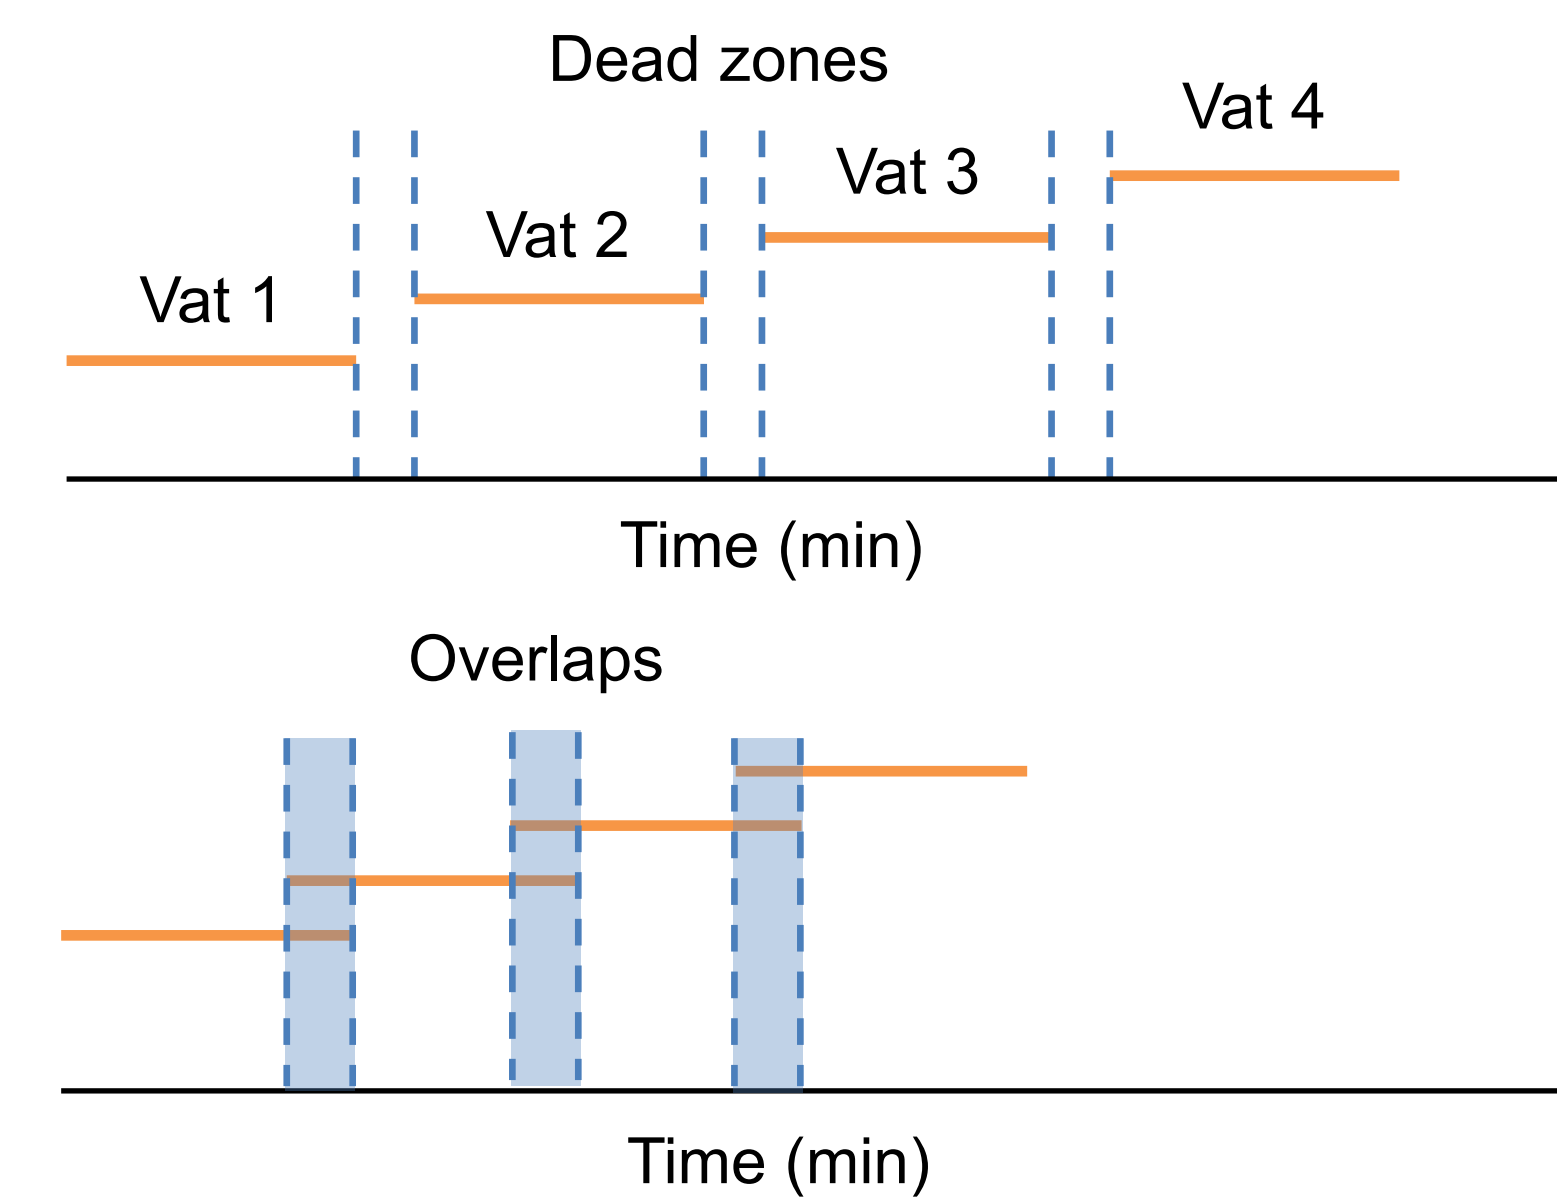

Figure 5: Vat overlap timeline
- Next vat is started before the previous vat ends (Fig 5)